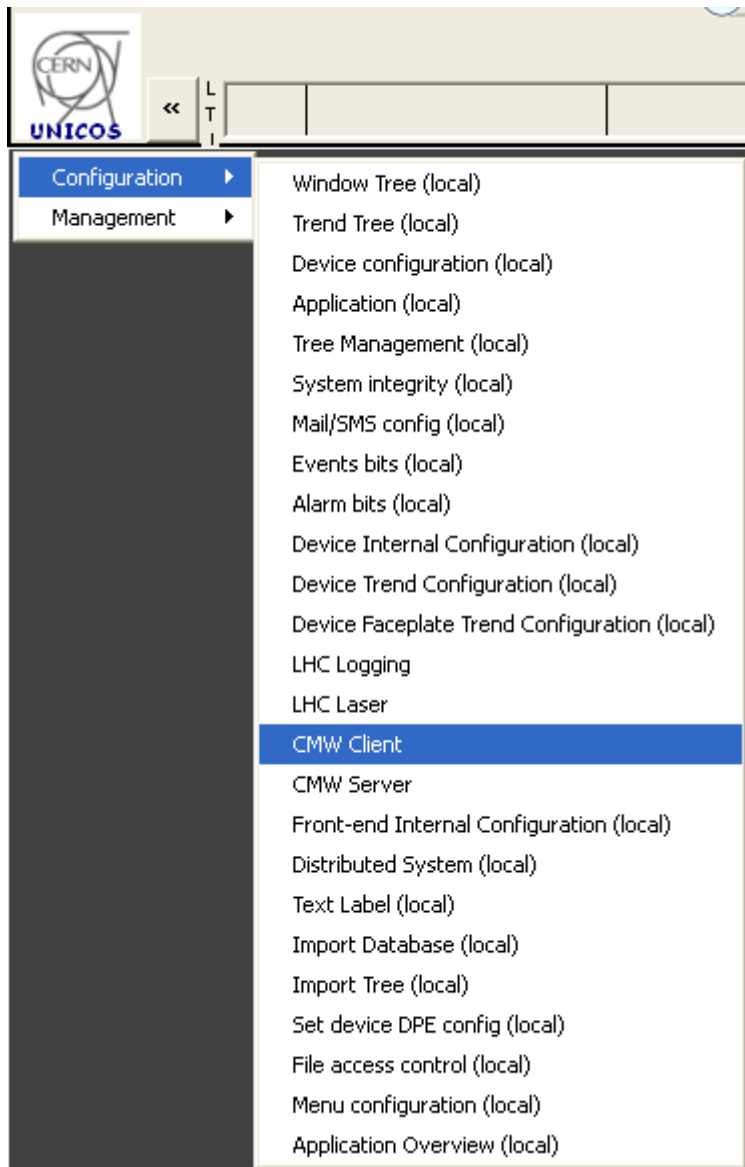
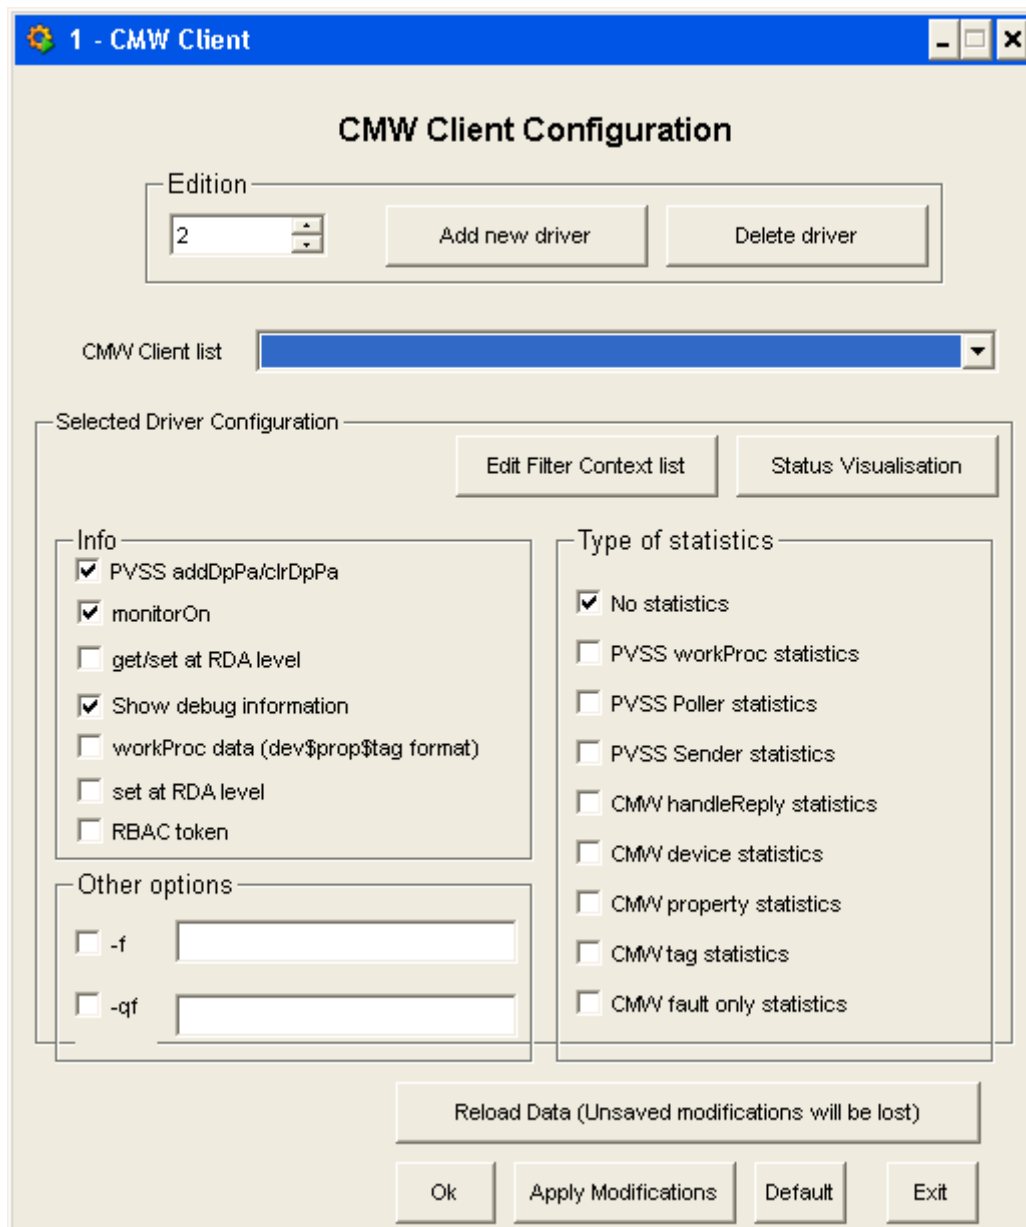

Figure 1: open the CMW Client configuration.
Figure 2: create the CMW config for driver 2.
- create the CMWClient config (Figure 1 and Figure 2) for driver 2
- create the CMWClient config (Figure 1 and Figure 2) for driver 3